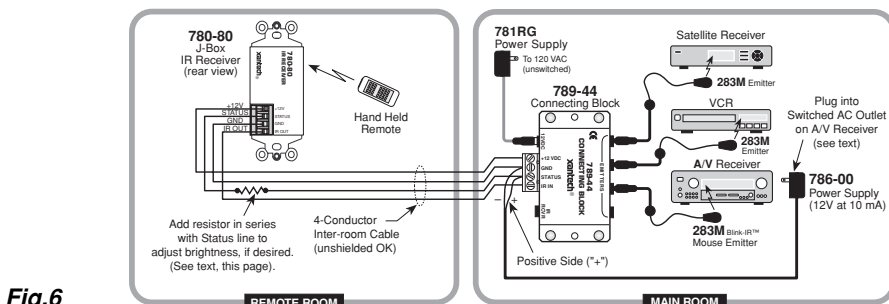

Fig.6
- To do this, you would plug a 12V adapter, such as the Xantech 786-00 Power Supply, into the **switched** AC Outlet of the A/V receiver. The 12V leads are then connected between the STATUS and GND terminals on the 789-44 ("+" to STATUS, "-" to GND). See **Fig. 6**.